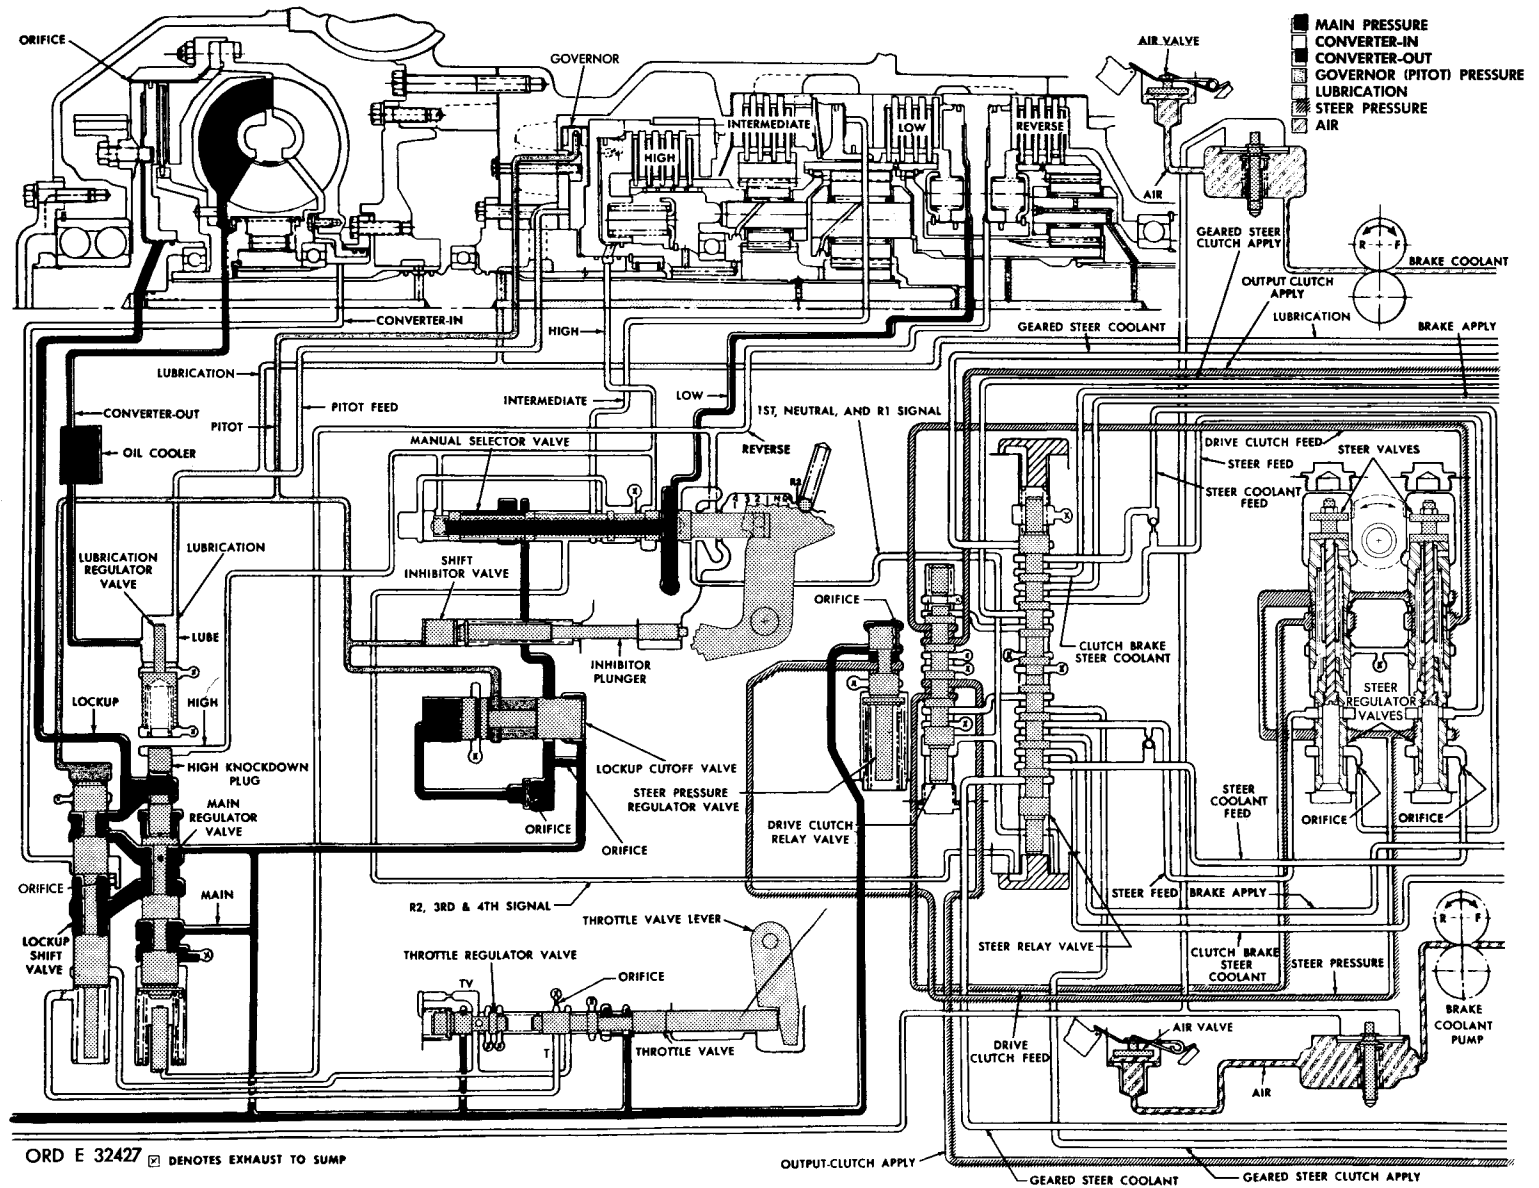

Figure 8. Hydraulic system, second gear — schematic view
### 32. HYDRAULIC SYSTEM FUNCTION - SECOND GEAR (fig. 8)
c. Fig. 8 illustrates the lockup shift valve in its downward position and shows main pressure applying the lockup clutch. Note the branch of the lockup clutch line that directs pressure to the top of the main-pressure regulator valve. Downward movement of the valve exhausts oil to the sump, reducing main pressure.